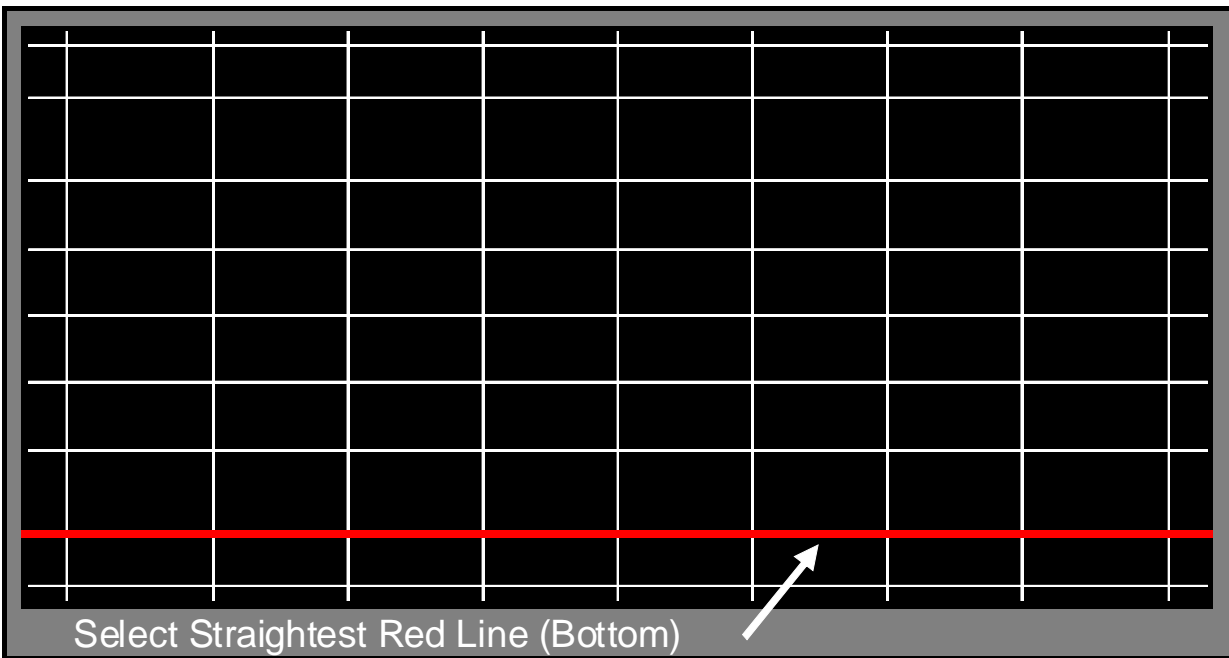

Figure 4: Bottom Letter Box Mode Pattern
12. Press "VIDEO" to activate the Bottom Letter Box alignment mode, refer to *Figure 4*.